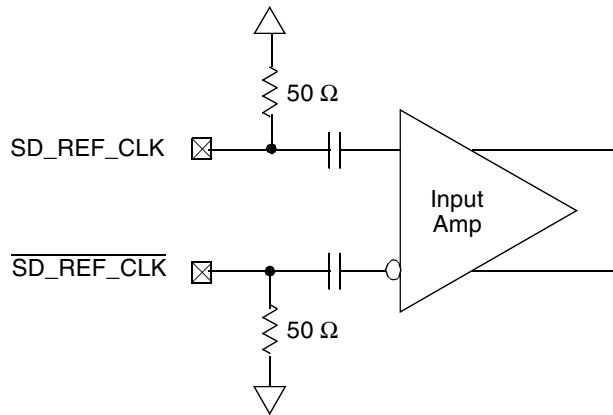

Figure 40. Receiver of SerDes Reference Clocks
Figure 40 shows a receiver reference diagram of the SerDes reference clocks.
- The SD_REF_CLK and $\overline{SD_REF_CLK}$ are internally AC-coupled differential inputs as shown in Figure 40. Each differential clock input (SD_REF_CLK or $\overline{SD_REF_CLK}$) has a 50- Ω termination to SCOREGND followed by on-chip AC-coupling.